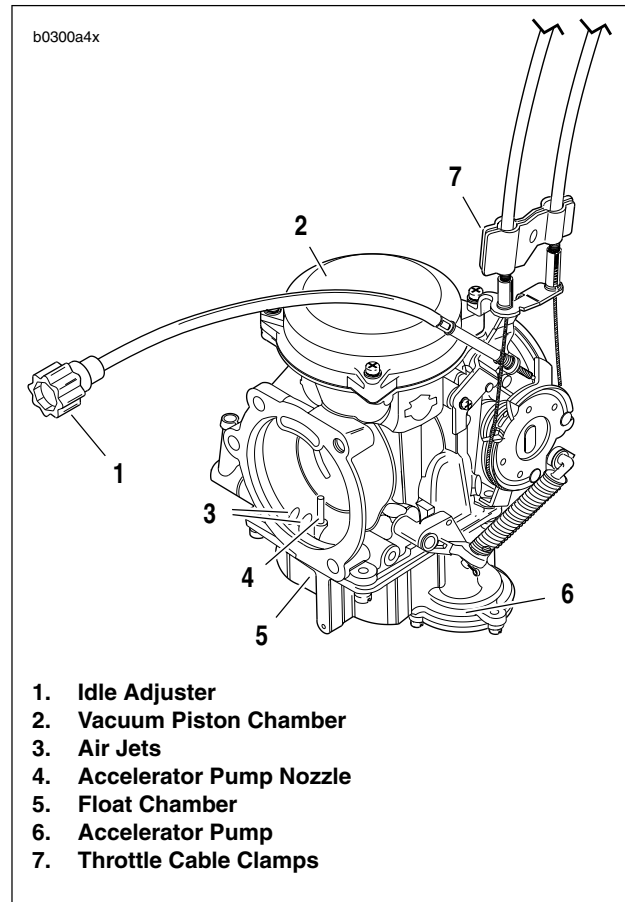

Figure 4-1. Carburetor
See Figure 4-1. Buell motorcycles use a constant-velocity, gravity-fed carburetor. This carburetor features a float-operated inlet valve, a variable venturi, a remote idle adjuster (1) (for idle speed adjustment) and a fuel enrichment system (for starting).